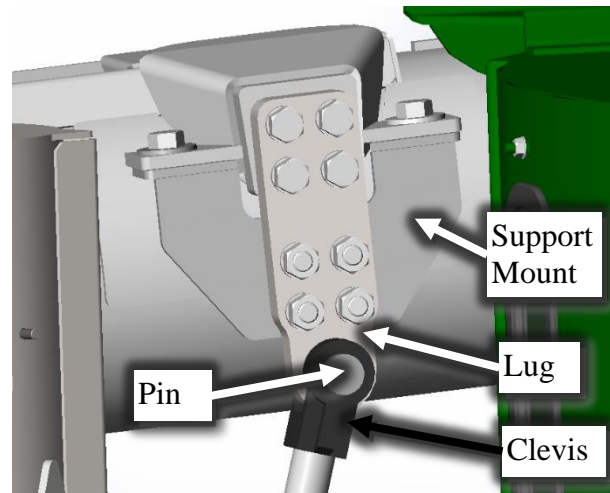

Figure 58– Upper Discharge Auger Configuration.
NOTE: The 7165 is shipped from the factory in the upper configuration (see Figure 58).
If Discharge Auger needs to be changed to the lower configuration do the following steps (see Figures 58 & 59):
5. Bolt parts back together as shown in Figure 58.